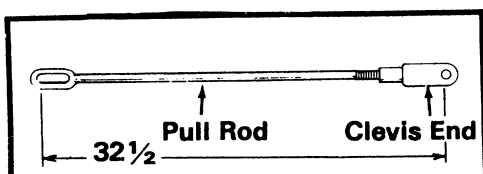

FIGURE 3.
1. Adjust the clevis ends on both pull rods so that they measure 32½ inches. (See figure 3.)